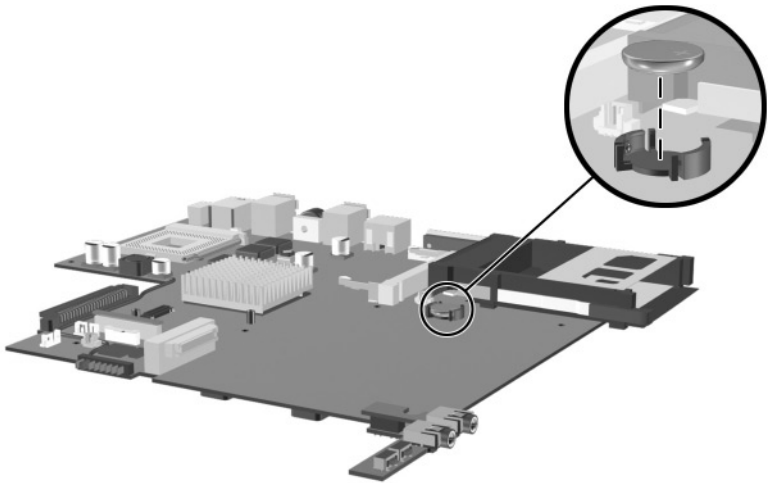

Figure 5-29. Removing the RTC Battery
2. Remove the RTC battery from the socket on the system board (Figure 5-29).